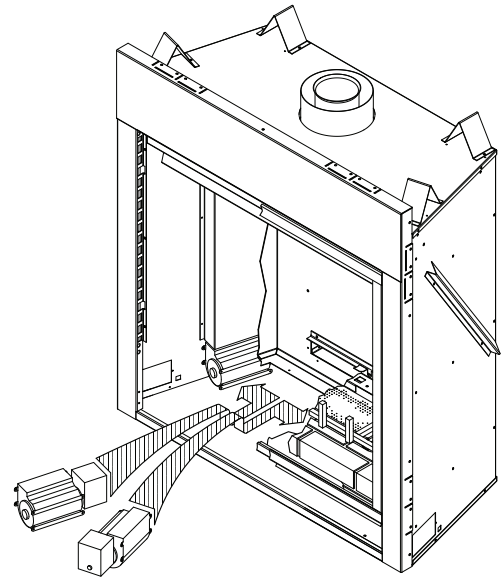

Figure 51 -
9. The blowers are to be inserted flat through the engine cutout in the firebox floor. Slide each blower over to the sidewall location. *Figure 51*